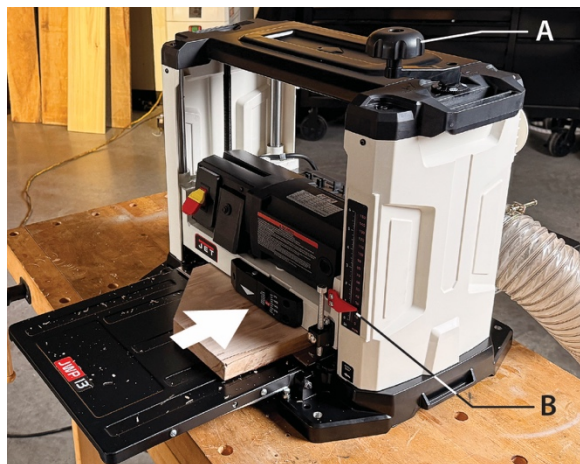

Figure 8-1
Use the crank handle (A, Figure 8-1) to adjust the planing thickness.
- The height adjustment is made by means of the crank handle (A, Figure 8-1). Each full turn of the crank raises or lowers the cutterhead by 1/16 inch (1.58mm). Moving each small grid of the dial, the cutterhead rises or lowers by 1/128 in (0.2mm).
The set planing thickness is indicated on the thickness scale (B, Figure 8-1).